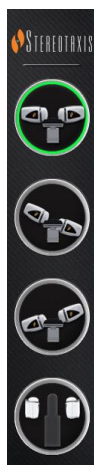

Figure 14. *Genesis RMN* Navigate AP button is top button on UTSC; **Stow** button is bottom button on UTSC.
4. If not already positioned, retract magnet positioners back to Stow by pressing the Stow button on the UTSC (**Figure 14**) and the Move Button (**Figure 19**) to aid in patient loading.